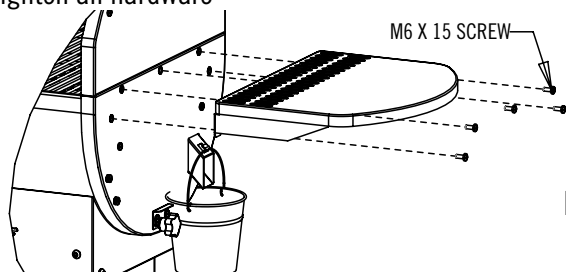

FIG. 5
1. Install shelf as shown in Fig 5.